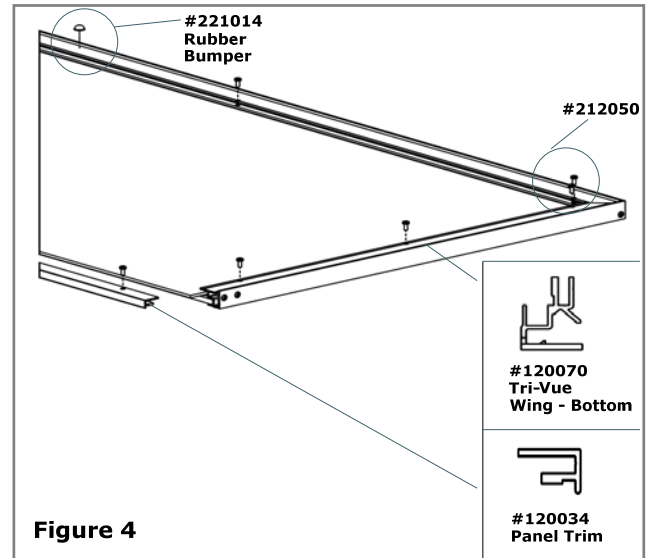

Figure 4
6. Install backing panels. Refer to **Figure 4** and the instructions below: